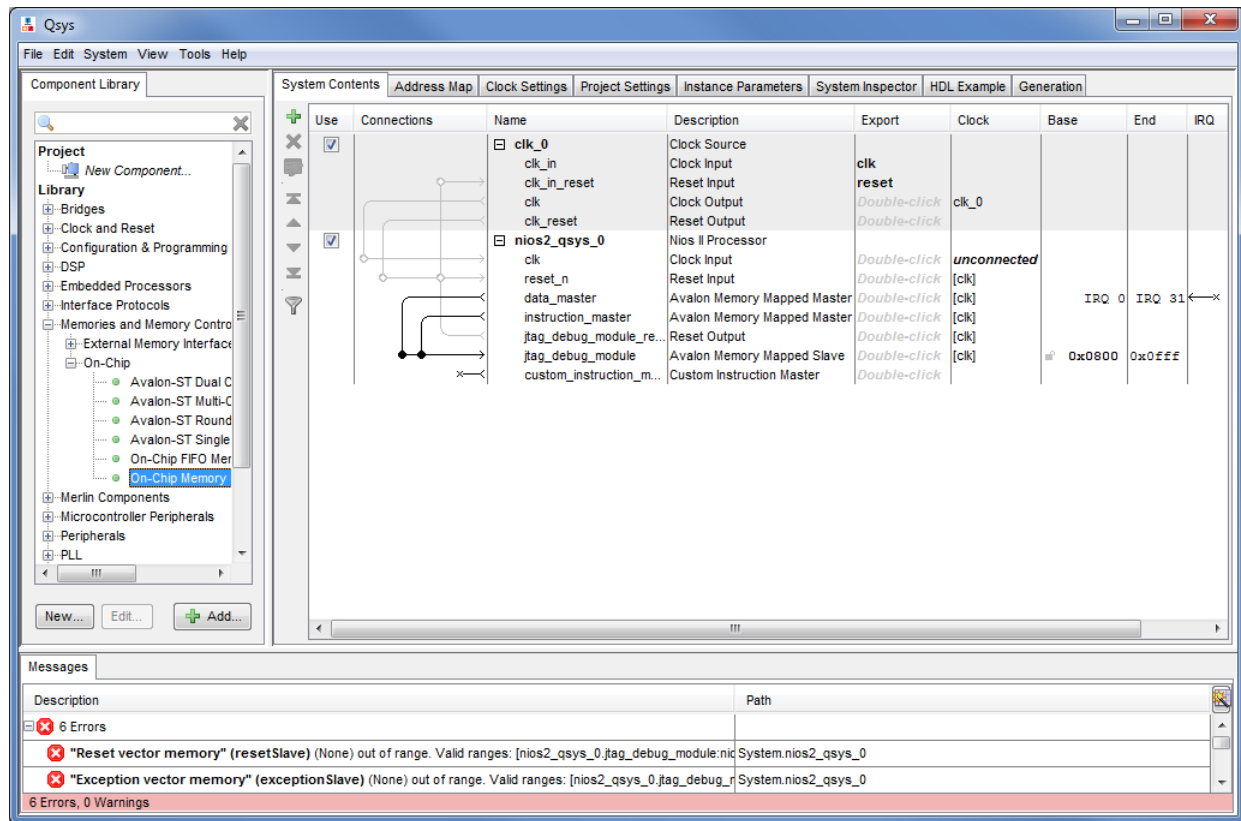

Figure 7. Inclusion of the Nios II processor in the design.
- Choose Nios II/e which is the economy version of the processor. This version is available for use without a paid license. The Nios II processor has *reset* and *interrupt* inputs. When one of these inputs is activated, the processor starts executing the instructions stored at memory addresses known as *reset vector* and *interrupt vector*, respectively. Since we have not yet included any memory components in our design, the Qsys tool will display corresponding error messages. Ignore these messages as we will provide the necessary information later. Click Finish to return to the main Qsys window, which now shows the Nios II processor specified as indicated in Figure 7.